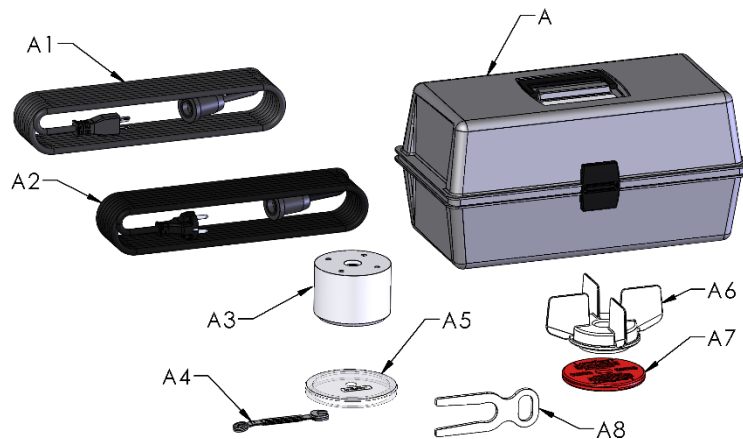

Figure 46: Accessories included in toolbox
- Remove the cover by sliding it out. The filter tissue is located between the filter body and filter cover (see Figure 45 & Figure 46).